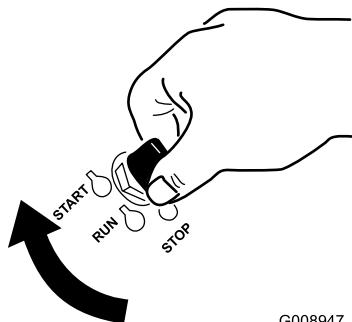

Figure 13
1. Turn the ignition key to the Start position (Figure 13). When the engine starts, release the key.